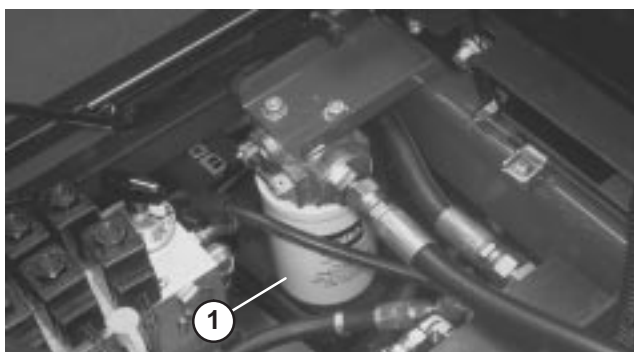

Figure 60
2. Clean area around filter mounting area (Fig. 60). Place drain pan under filter and remove filter.